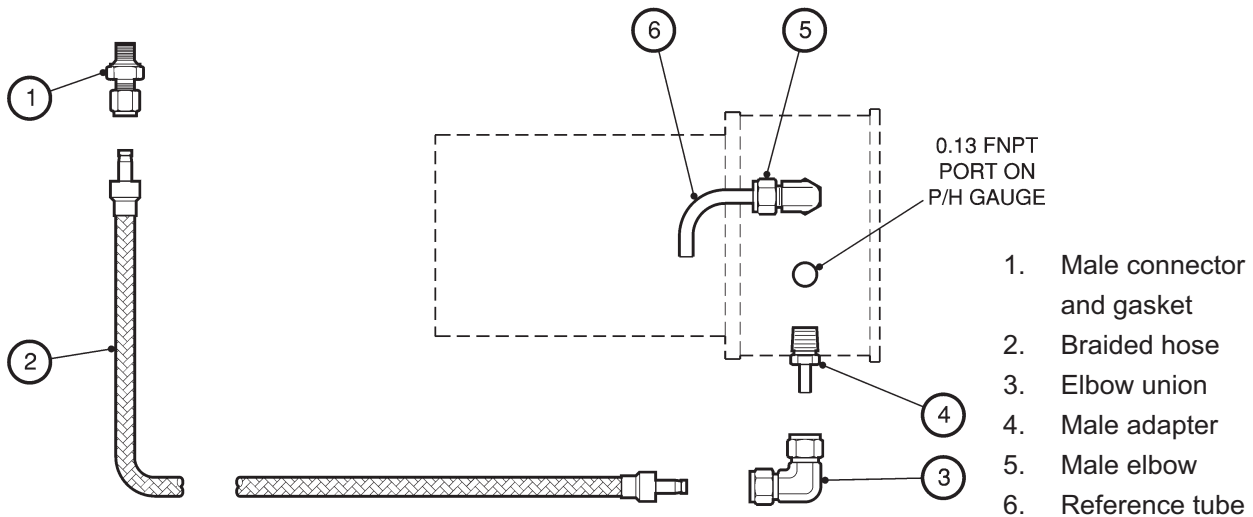

Figure 3-16 - Photohelic gauge piping connections
2. See Figure 3-16. Connect the braided hose to the male connector and gasket (1) on the photohelic spoolpiece and to the photohelic gauge port as shown. (See Section 6.2 for guidelines)